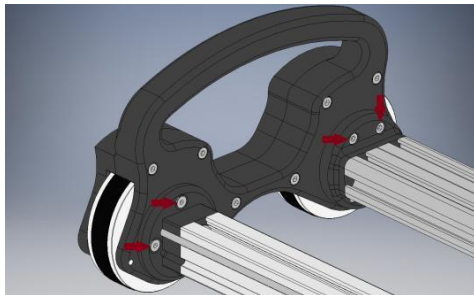

Figure 1
- 3) Loosen the 4 M4x10 FH screws and the 4 M4x12 SH screws that connect the Extrusion Assemblies to the Right Drive Section (Figure 1). Remove all but one of the top screws on each side.